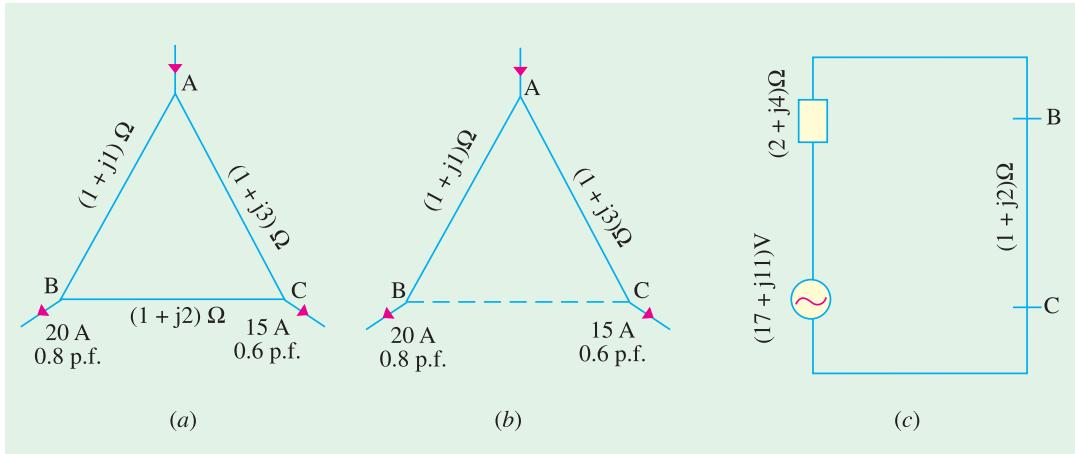

Fig. 41.55
**Solution.** Thevenin's theorem will be used to solve this problem. The ring distributor is shown in Fig. 41.55 (a). Imagine feeder BC to be removed [Fig. 41.55 (b)].
The equivalent Thevenin's source is shown in Fig. 41.55 (c) with feeder BC connected across it.